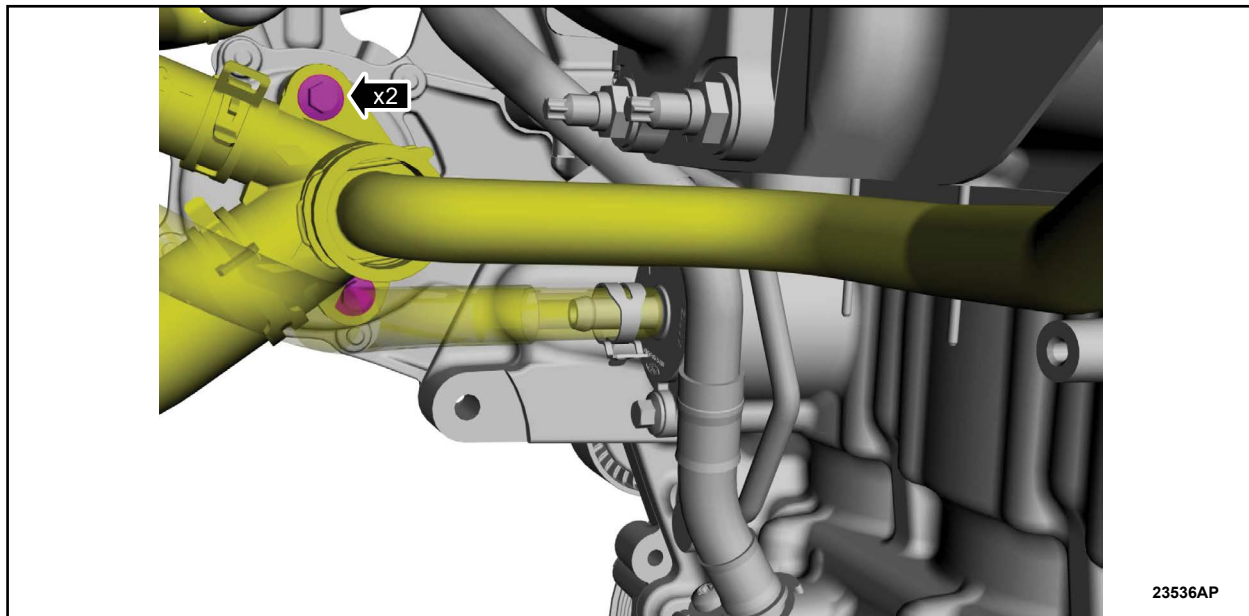

FIGURE 46
54. Install the thermostat housing and bolts. See Figure 46.